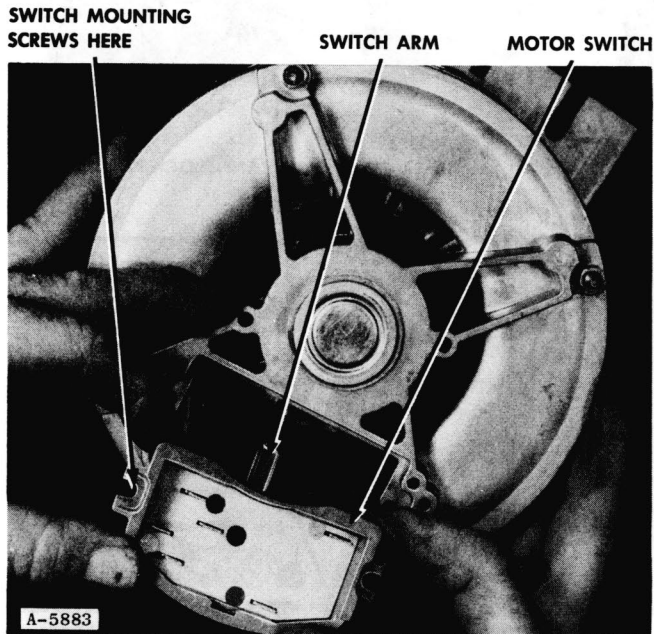

Figure 94
3. Tilt the switch and lift out. Figure 94 and 95.